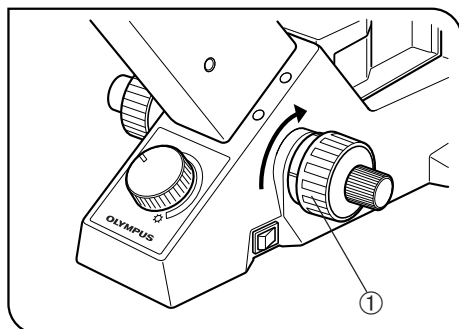

Fig. 28
(Figs. 28 &amp; 29)
1. Turn the coarse adjustment knob ① towards the back until the revolving nosepiece is set at its lower limit. (Fig. 28)